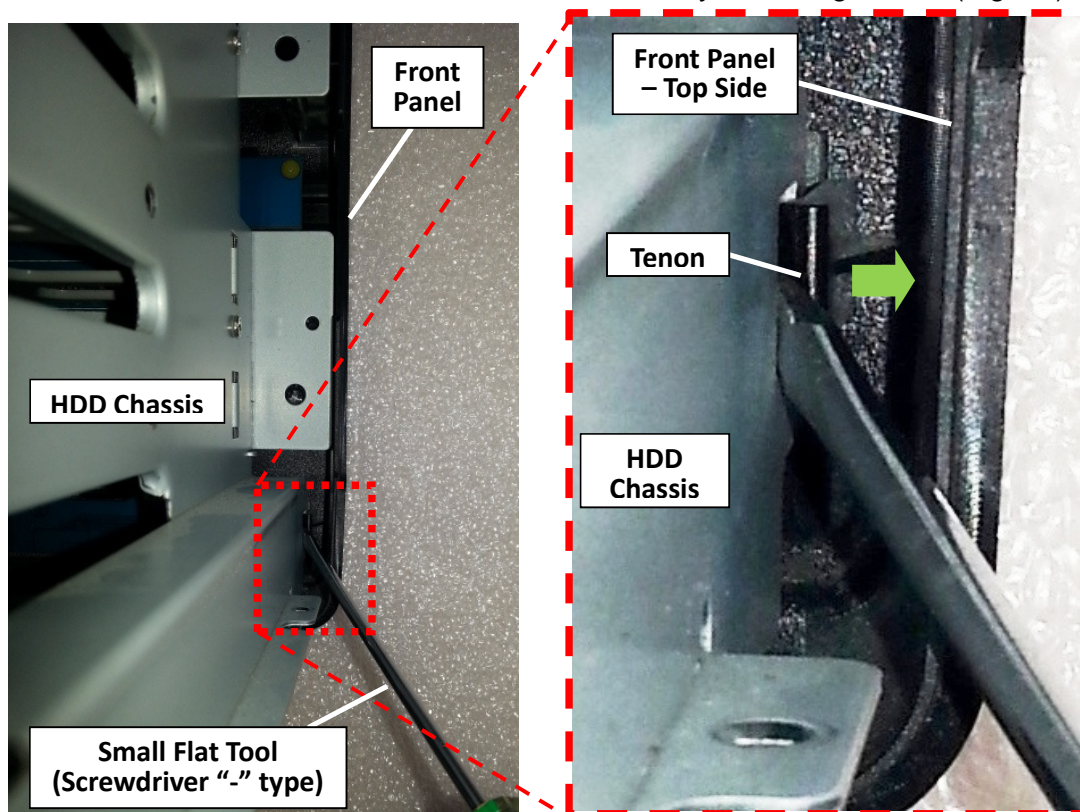
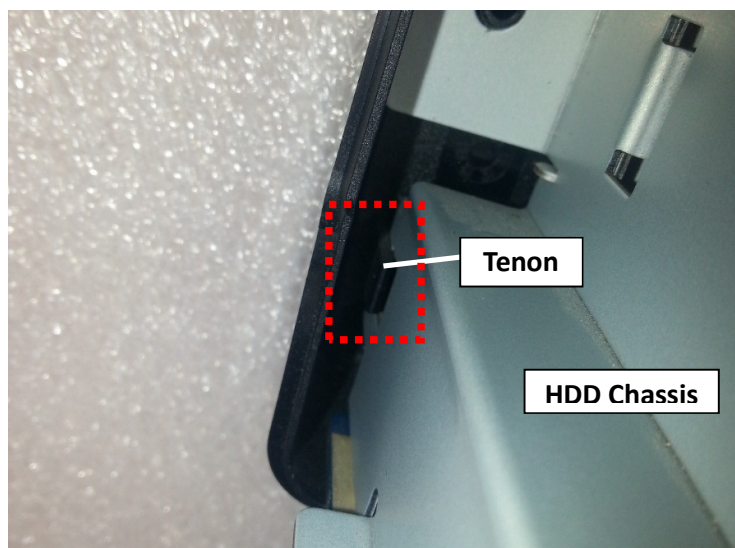

Fig. 59 – Top View, Left Side
Fig. 60 – Top View, Right Side
- 3.1.12 Use a small flat tool (e.g. A screwdriver of “-” type) to slightly bend outwards the tenon on each side of the front panel interior for releasing. (Marked by the red rectangle in Fig. 59, showing the left side). Then push the front panel outwards to release it from the enclosure. Do in the same way for the right side. (Fig. 60)